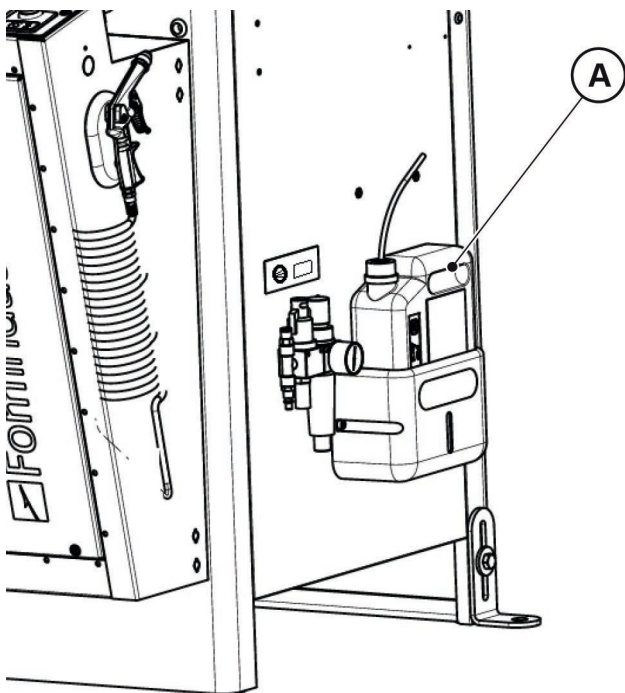

Fig. 09-01
- Check the cut lubricating oil level "A" (Fig. 09-01)